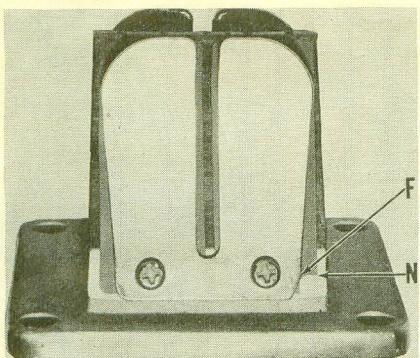

Fig. Y4-4-Notches in reed valve petal (F) and reed petal stop (N) must be adjacent on model RD200A.
Model RD200A is equipped with reed valve induction. Reed valve petals must be installed so that notch in petal (F—Fig. Y4-4) is next to notch (N) in reed petal stop.